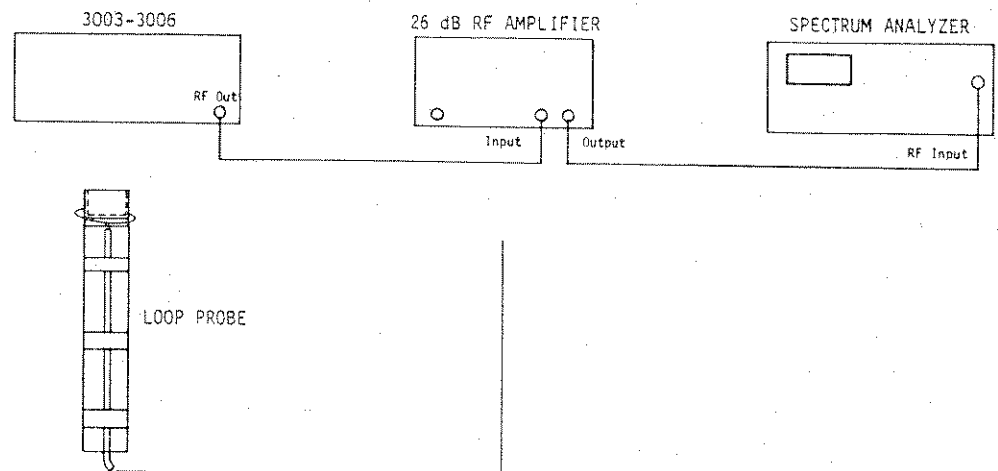

Figure 4-6. Test Set-up
2. Connect the equipment as shown in Figure 4-6.